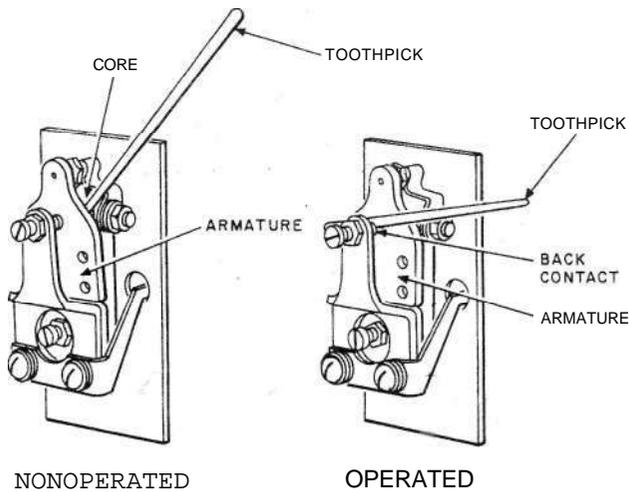

Fig. 20—Blocking 196-Type Relays
3.17 **196-Type Relays:** Fig. 20—Block relays nonoperated by inserting the pointed end of a toothpick between the armature and the core. Block relays operated by inserting the flat end of a toothpick between the armature and the back contact.